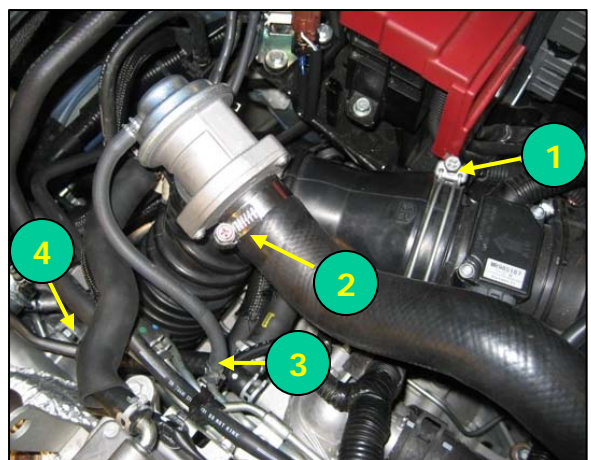

Fig. 6
7. Remove the compressor inlet hose, complete with rubber elbow and bypass valve. To do so, remove all 4 clamps at locations shown in figure 6. These are: